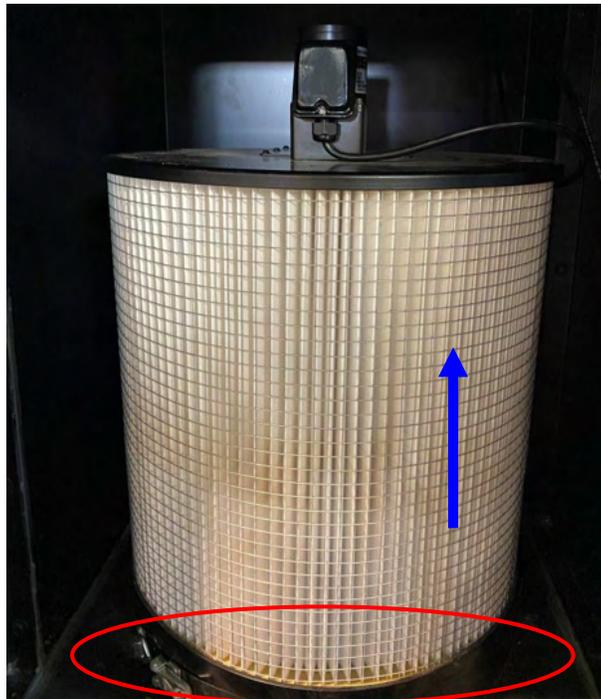

Figure 10: Adjustable Clamp
3. Remove the adjustable clamp from the canister filter (located at the bottom, Fig. 10) to remove the canister filter from the housing.